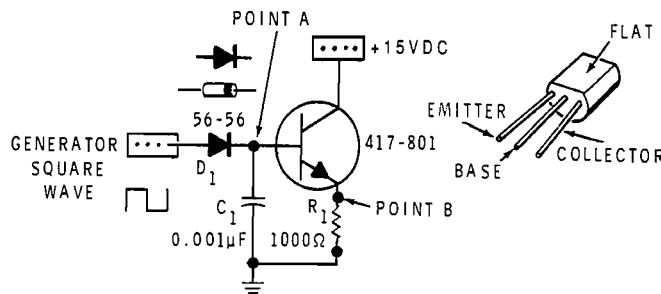

Figure 2-10
12. Construct the circuit shown in Figure 2-10.
13. Set your oscilloscope controls as indicated in step 2. Connect channel 1 to point A (refer to Figure 2-10). Repeat steps 4 and 5.
In Figure 2-10, the load resistor is placed in the emitter-circuit, isolated from the capacitor. In addition, the value of this load is decreased to 1000 ohms. The discharge rate of the capacitor in this circuit is now determined by the input resistance offered by the base circuit of the transistor.